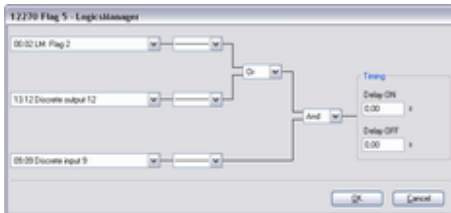

Fig. 237: LogicsManager function "Flag 5"
6. ➤ Configure the LogicsManager function "Flag 5" as shown in (Fig. 237).